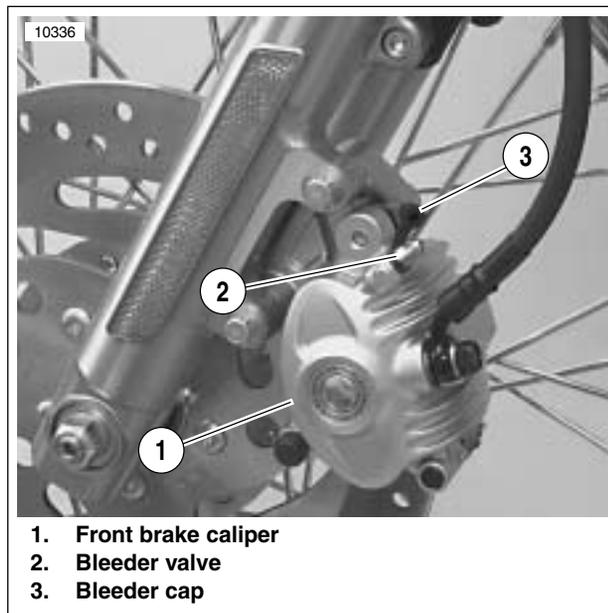

Figure 1-17. Front Brake Caliper
4. See Figure 1-17. Remove bleeder cap (3) from bleeder valve (2) on front caliper (1).
6. Squeeze and hold brake lever to build up hydraulic pressure. See Figure 1-17. Open bleeder valve (2) about 1/2-turn. Brake fluid will flow from bleeder valve through tubing. Close bleeder valve when brake lever has moved 1/2 to 3/4 of its full range of travel. Allow brake lever to return slowly to its released position.
8. Final tighten bleeder valve to 35-61 **in-lbs** (3.9-6.9 Nm). Remove plastic tubing and install bleeder cap (3).